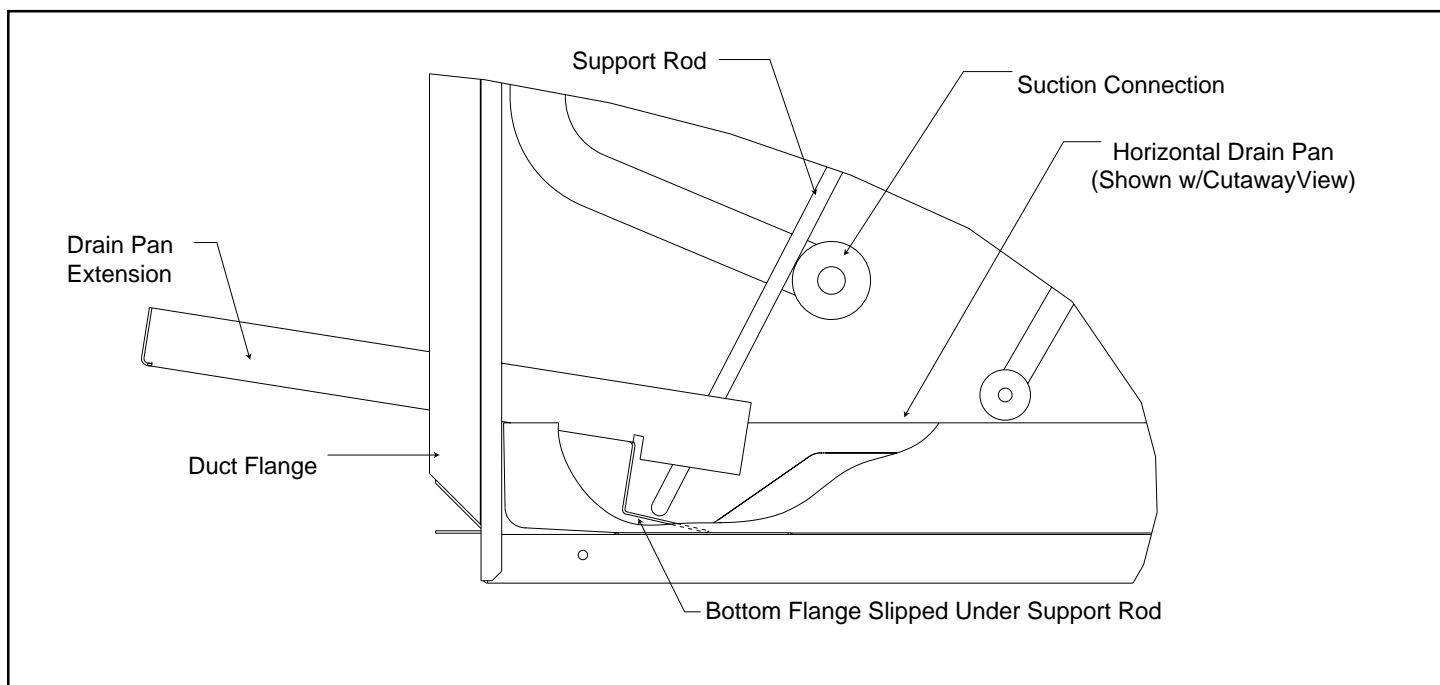

**Figure 3**
- 7) Attach the horizontal drain pan to the coil as shown and insert the extra plastic plug into the open hole of the bottom drain pan to block bypass air flow. (See Figure 3.)